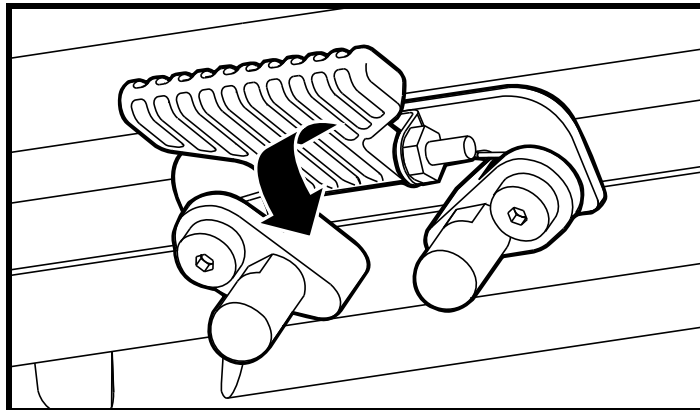

Figure 12. Seat Latch Safety – Latched
4. Flip the seat latch safety down. **See figure 12.**